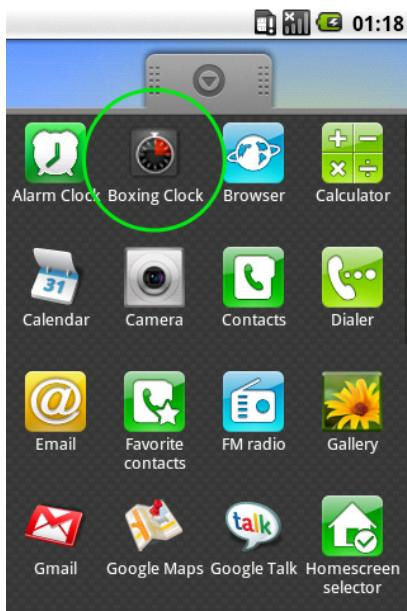

Figure 6-29. Boxing Clock icon in the Android app menu
3. Optionally, copy the program icon (`icon.png`) of three different sizes into `res/drawable-ldpi/`, `res/drawable-mdpi`, and `res/drawable-hdpi`, overwriting the files that are already in there. This will give you an attractive icon, as shown in Figure 6-29.